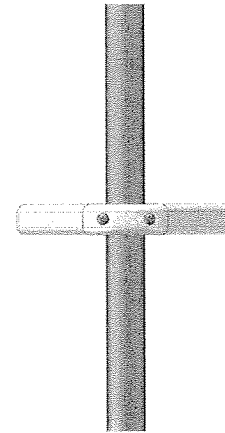

Figure 16: Proper Installation
4. Ensure proper orientation of small piece. See figure 16.